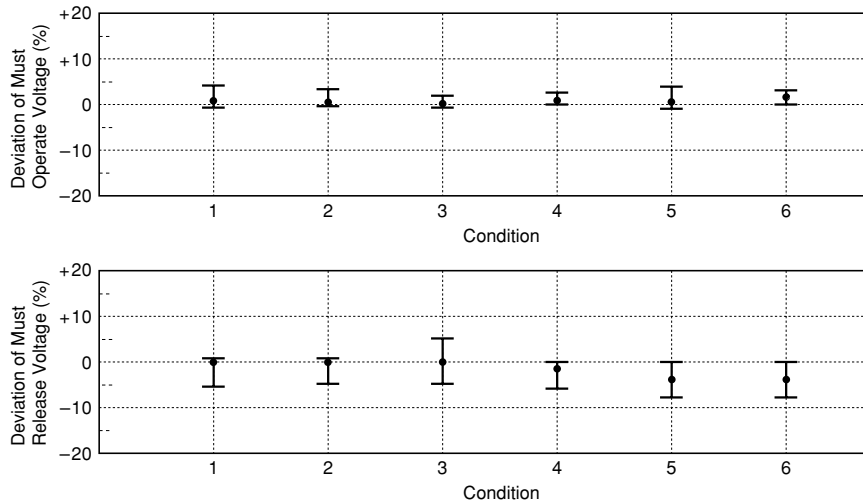

Figure 3.8 Magnetic Interference
This section describes changes in the operate voltage caused by mutual magnetic interference when several relays are closely mounted on a printed circuit board (PCB). Figure 3.8 (1) shows the distance among the relays mounted on the PCB. As shown, the pin pitch of each relay is 2.54 mm. Figure 3.8 (2) shows the relay that is subject to interference. In this figure, the hatched relay shown in the center of each relay arrangement is subject to interference, and the surrounding relays influence the center relay. The condition under which the center relay suffers interference and the surrounding relays affect the center relay differs depending on whether power is supplied to each relay. Figure 3.8 (3) shows the deviation in percent of the operate and release voltages of the center relays in Figure 3.8 (2).
(1) Mounting pitch (mm)
(2) Relay arrangement
(3) Deviation of must operate and must release voltages